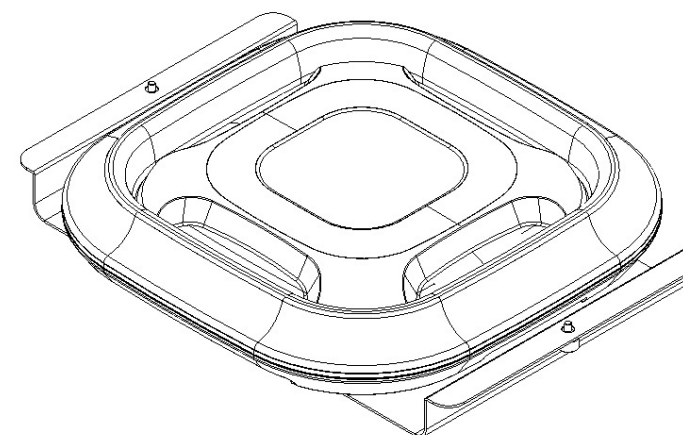

Figure 3
Step 7 – After the Ethernet cable has been attached to the *Cisco access point*, attach the *Cisco access point* to the *Oberon access point mounting bracket/Cisco mounting bracket assembly* (Ref. figure 3). This is done by placing the feet of the *Cisco access point* into the keyholes of the *access point mounting bracket assembly* and sliding until it locks into place.